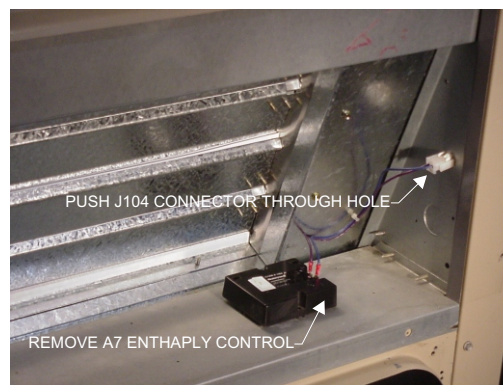

Figure 2
- 4- The economizer may use an A7 enthalpy sensor located on the division panel between the economizer outdoor air and return air dampers. If present, the sensor must be moved to the intake air section of the ERS. Disconnect sensor plug P104, remove screws securing the sensor, and retain sensor assembly and screws. Push sensor jack J104 through economizer support wall. **See Figure 2.**
- 8- Locate the A7 enthalpy control sensor (if removed earlier from the rooftop unit.) **See Figure 2.**